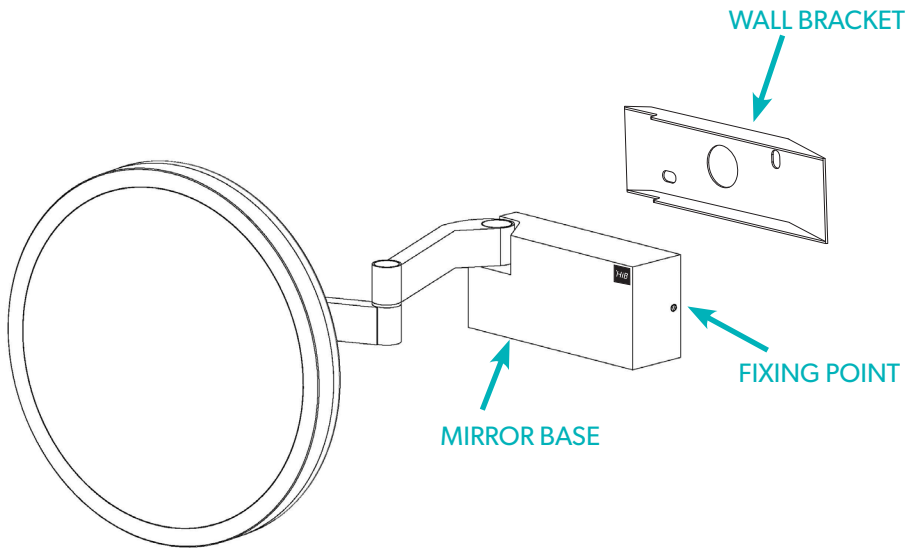

Fig 2. - Mounting Diagram
2. Remove the wall bracket from the base of the mirror via the fixing(s) on the base of the unit, *see Fig. 2*.